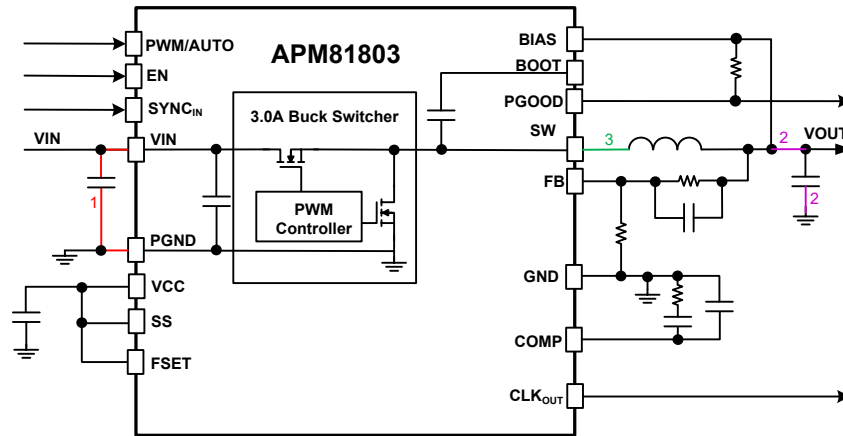

Figure 14: PCB Layout Critical Paths
The APM81803 is designed to minimize electromagnetic (EM) emissions when proper PCB layout techniques are adopted. A good PCB layout is also critical for the APM81803 to provide clean and stable output voltages. Design guidelines for EMI/EMC-aware PCB layout and minimum $R_{\theta JA}$ are presented below. Figure 14 shows a typical application schematic of a synchronous buck regulator IC with critical power paths/loops.
- Place the ceramic input capacitors as close as possible to the VIN pin and PGND pins to make the loop area minimal, and the traces of the input capacitors to VIN pin should be short and wide to minimize the inductance. This critical loop is shown as trace 1 in Figure 14. The bulk/electrolytic input capacitor can be located further away from VIN pin. The input capacitors and APM81803 IC should be on the same side of the board with traces on the same layer.
- Place the output capacitors relatively close to the output inductor (L_O) and the APM81803. Ideally, the output capacitors, output inductor, and the APM81803 should be on the same layer. Connect the output inductor and the output capacitors with a fairly wide trace. The output capacitors must use a ground plane to make a very low-inductance connection to the PCB GND. These critical connections are shown as trace 2 in Figure 14.
- Place the output inductor (L_O) as close as possible to the SW pin with short and wide traces. This critical trace is shown as trace 3 in Figure 14. The voltage at SW node transitions from 0 V to V_{IN} with a high dv/dt rate. This node is the root cause of many noise issues. It is suggested to minimize the SW copper area to minimize the coupling capacitance between SW